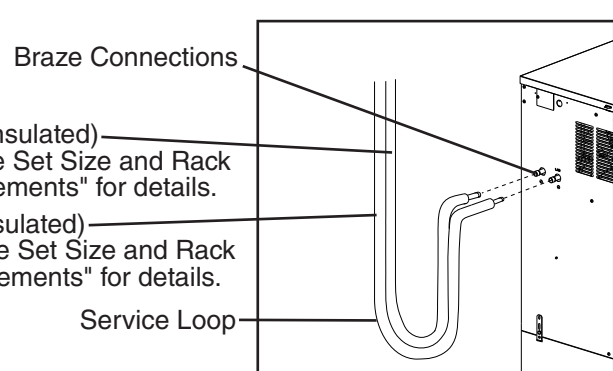

Fig. 14
- 1) Route the copper tube liquid line and copper tube suction line (see "II.H.1 Line Set Size and Rack System Requirements" for details) from the rack system to the icemaker. Leave a service loop behind the icemaker to allow the icemaker to be pulled out for service. See Fig. 14. **NOTICE! Do not coil extra line set. Fabricate the line set to the proper length.**